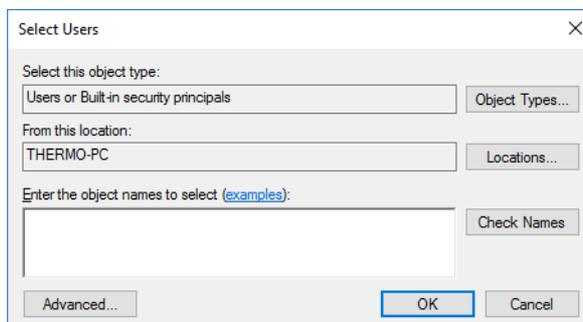

Figure 2-7. Selecting Windows users
- a. In the first step, enter the desired users (see Figure 2-7).